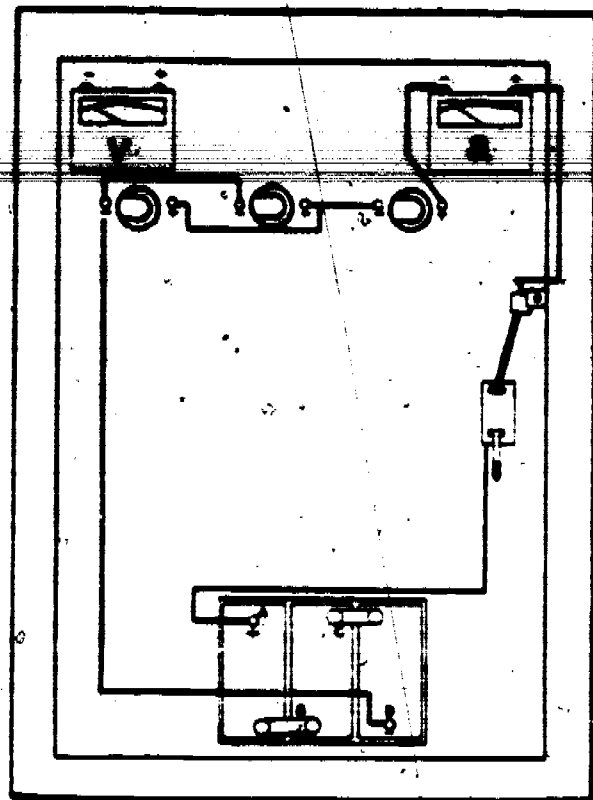

Figure 6. One Bulb in Series; Two Bulbs in Parallel.
- 6. Connect a series-parallel circuit on the trainer as in figure 6.